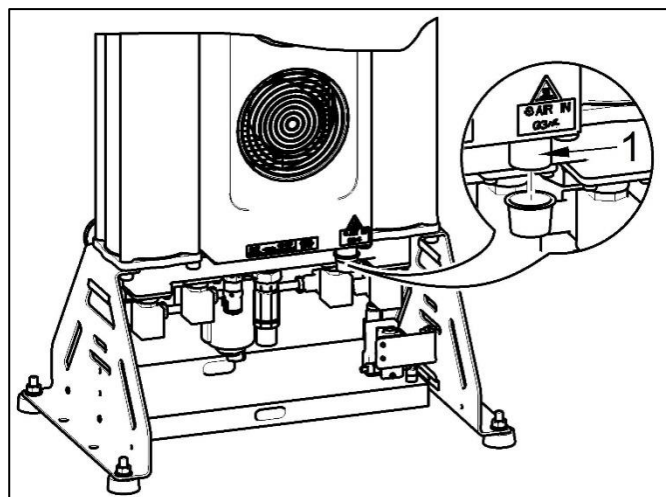

Fig. 15: Compressed air inlet
- Connect the compressed air outlet from the compressor (Fig. 15) to the dryer inlet (1).